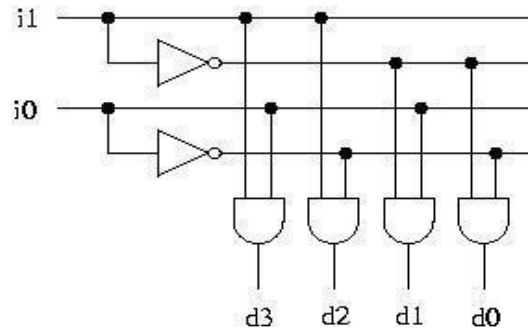

Figure 4.7: 2x4 decoder.
1. How do you go about adding an Enable (E) signal to the decoder in Figure 4.7? Modify the implementation to show that. (Design Only using chips in Figure 1).